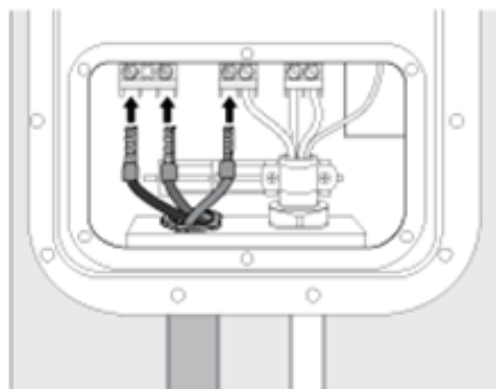

Figure 4-6.
9. See Figure 4-6. Use appropriate copper wire with listed pressure terminal connectors, such as ring and fork types, on the end of the conductor before attachment to the terminal blocks. Keep enough length of wire to facilitate installation. Connect each terminal to the correct terminal input block connector in the compartment and torque to 19 lb•in (2.2 N•m).